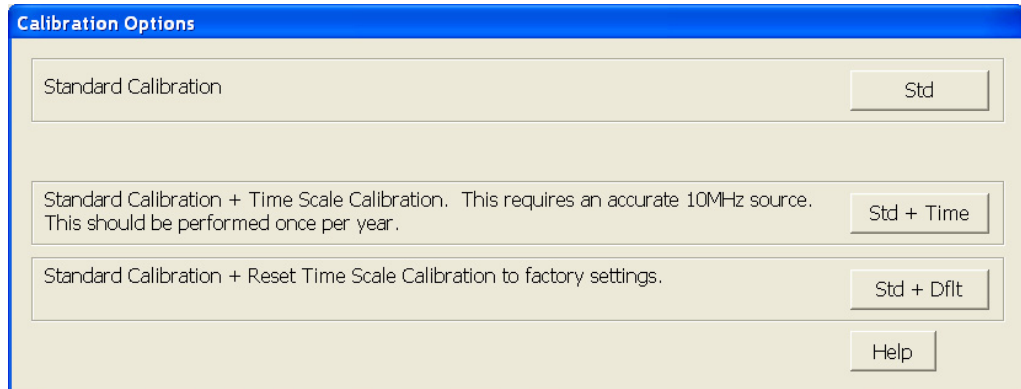

Figure 60 Time Scale Calibration Dialog box
- d During the calibration of channel 1, if you are prompted to perform a Time Scale Calibration, as shown in Figure 60 below.